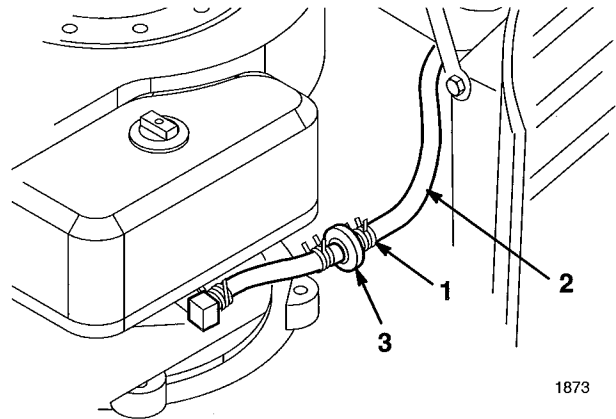

Figure 23
3. Squeeze the ends of the hose clamp together and slide it up the fuel line toward the fuel tank (Fig. 23).
4. Pull the fuel line off the filter (Fig. 23) and allow gasoline to drain into a gas can or drain pan.
The best time to replace the fuel filter (Fig. 23) is when the fuel tank is empty. Never install a dirty filter if it is removed from the fuel line.
3. Squeeze the ends of the hose clamps together and slide them away from the filter (Fig. 23).